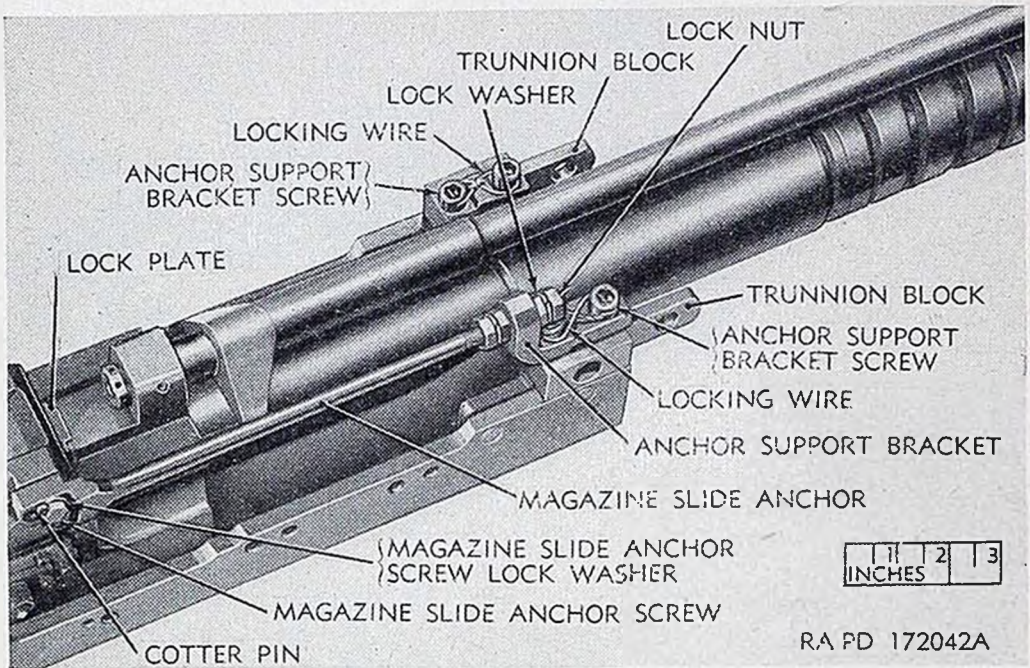

Figure 32. Removal of magazine slide anchor and support bracket from right side.
- (1) Remove charger from right side of gun and install it on left side of gun. Refer to paragraph 18 for installation and removal of 20-mm manual charger M6 and 20-mm pneumatic charger M4.
- (2) Remove driving spring guide and driving spring or springs (par. 66*a*).
- (3) Remove rear buffer assembly (par. 66*c*).
- (4) Remove electrical gun firing contact parts (par. 81*b* or *c*).
- (5) Remove breechblock assembly (par. 70). Remove the firing pin contact from the right side of bolt assembly and install it on the left side (pars. 71 and 73).
- (6) Install breechblock assembly (par. 74).
- (7) Install electrical gun firing contact parts (par. 81*e* or *f*) on left side.
- (8) Install rear buffer assembly and driving spring group (par. 68).
- (9) Remove magazine slide anchor and anchor support bracket from right side and install it on left side as directed in (*a*) through (*f*) below.
- (*a*) Remove cotter pin, magazine slide anchor screw lock washer, and magazine slide anchor screw (fig. 32). Remove the two locking nuts and lock washer and remove the magazine slide anchor (fig. 32).
- (*b*) Remove the locking wire, unscrew the two anchor support bracket screws, and remove the anchor support bracket (fig. 32). Remove the two screws from left-hand trunnion block and use them to secure the right-hand trunnion block to the cradle. Lock-wire the screws.
- (1) Remove charger from left side of gun and install it on right side of gun. Refer to paragraph 18 for installation and removal of 20-mm manual charger M6 and 20-mm pneumatic charger M4.
- (5) Remove breechblock assembly (par. 70). Remove the firing pin contact from the left side of bolt assembly and install it on the right side (par. 71 and 73).
- (7) Install electrical gun firing contact parts (par. 81*e* or *f*) on right side.
- (9) Remove magazine slide anchor and anchor support bracket from left side and install it on right side as directed in (*a*) through (*f*) below.
- (*b*) Remove the locking wire, unscrew the two anchor support bracket screws, and remove the anchor support bracket (fig. 32). Remove the two screws from right-hand trunnion block and use them to secure the left-hand trunnion block to the cradle. Lock-wire the screws.